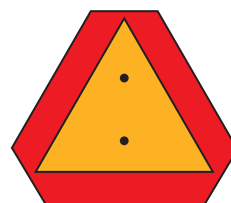

Figure 3-20: SMV Sign
- Transport during daylight hours whenever possible. Always use flashing warning lights, except where such use is prohibited by law. Make sure lights, reflectors and SMV emblem are clearly visible and operating. Remove any obstructions such as dirt, mud, stalks or residue that restricts view before transporting. **See Figure 3-20.**